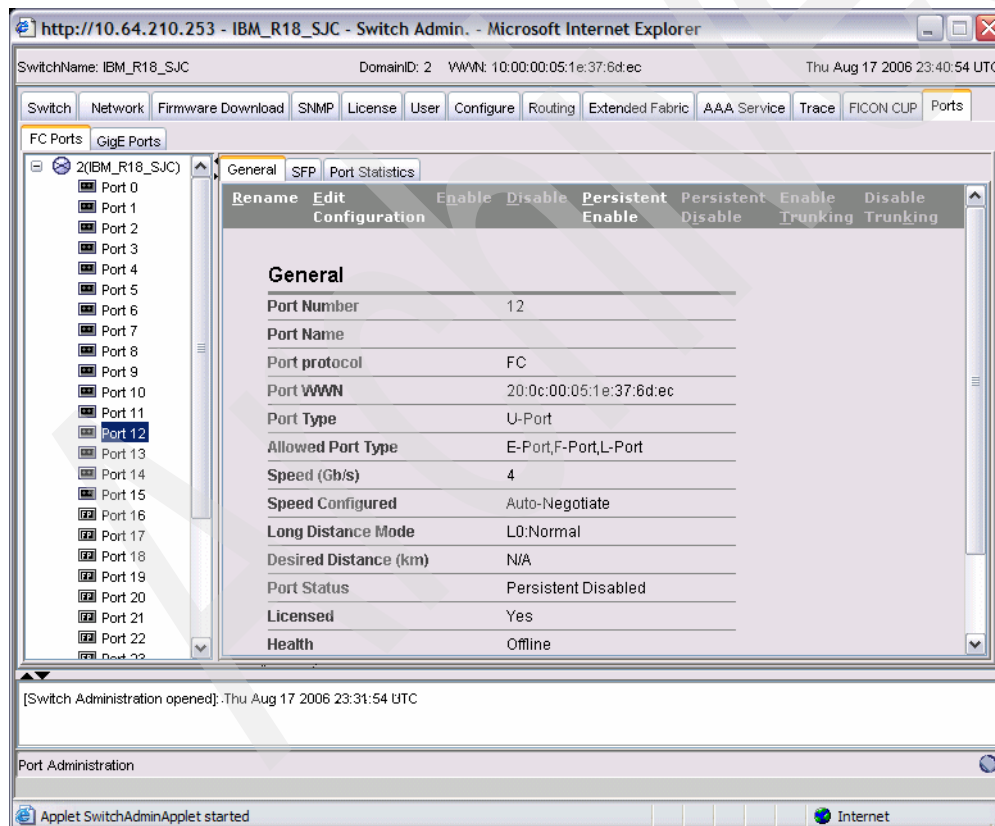

Figure 6-78 Persistent Enable Port 12
1. The first step is to persistent enable port 12, as shown in Figure 6-78.